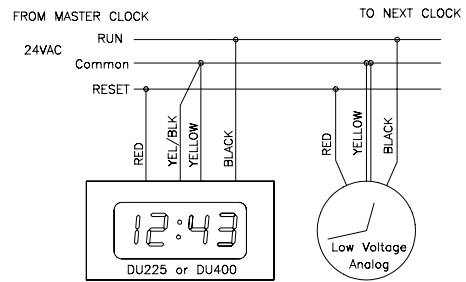

Fig. 3
Wiring as **Figure 3**, the DU225 and DU400 digital clocks are wired the same as a low voltage synchronous analog system. This allows the DU225/DU400 digital clock to be intermixed with analog clocks on the same circuit from the master clock. Wiring as **Figure 4** will allow the DU225/DU400 digital clock to be powered by 120VAC. This requires the appropriate DxT-120/24 Transformer.
Reset Options: (Figure 3 and 4 with National Synchronous Clocks)
2. Synchronous Clock Resets (Fig. 3 and 4 with Synchronous Clocks by others)